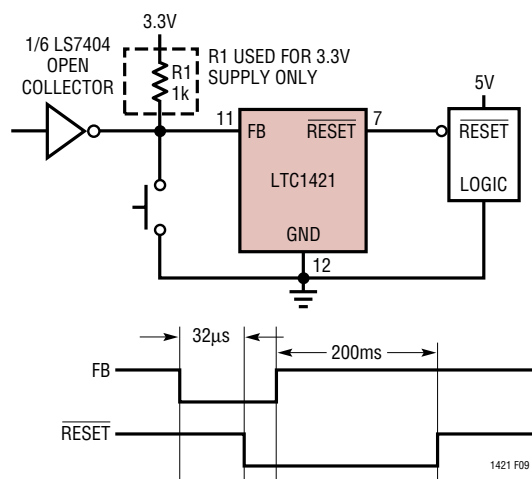

Figure 9. Generating a Soft Reset
A soft reset that doesn't cycle the supply voltage can be generated externally using Pin 11 (FB) as shown in Figure 9. For a 5V supply the FB pin is left floating to set the internal supply monitor trip voltage to 4.65V. However, if the FB pin is pulled to ground for more than 32 μ s via a push button or open-collector logic gate, the internal trip point will go to 5.88V and the RESET pin will pull low. RESET will remain low for 200ms after the FB pin is released. The RESET signal will also be pulled low when the voltage at the V_{OUTLO} pin dips below 4.65V for more than 32 μ s. When using a 3.3V supply, a 1k resistor must be connected from the FB pin to V_{CCLO} to set the internal trip point to 2.90V.